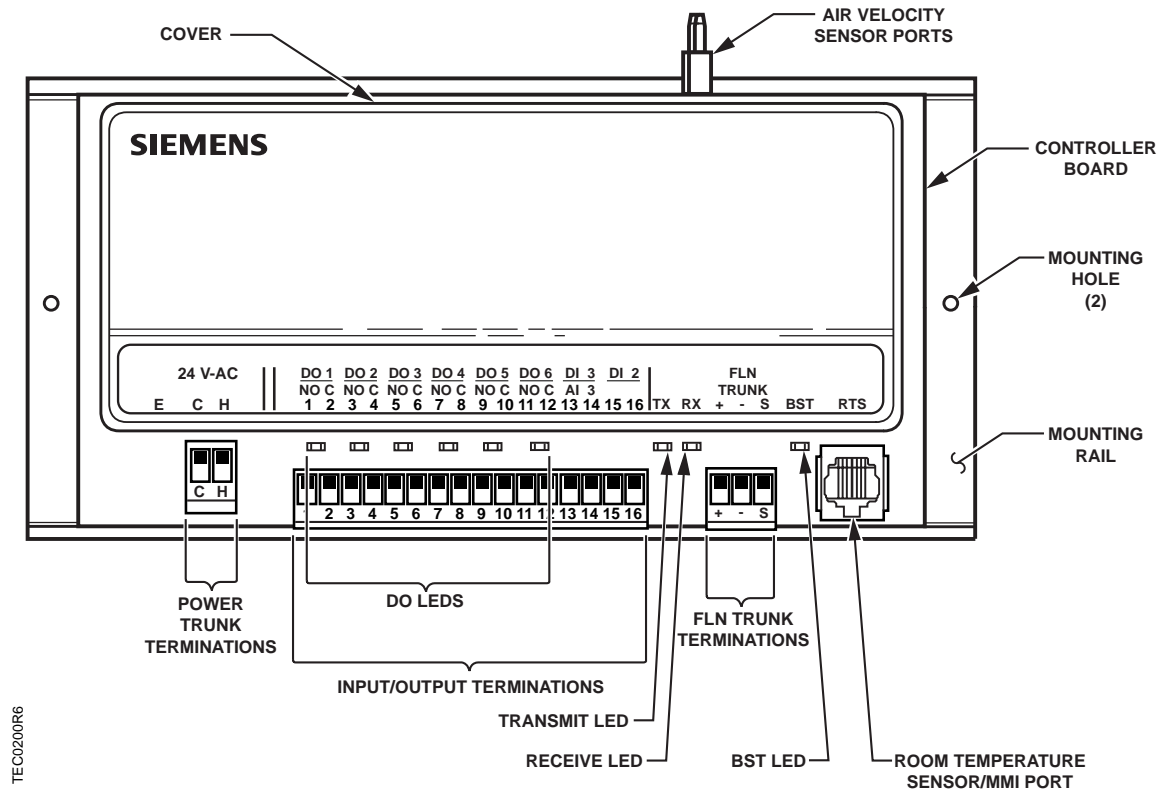

Figure 1. Constant Volume Controller—Electronic Output.
1. Secure the mounting rail (Figure 1) in the controller's desired location.
7. Plug the room temperature sensor cable into the RTS port (Figure 1).